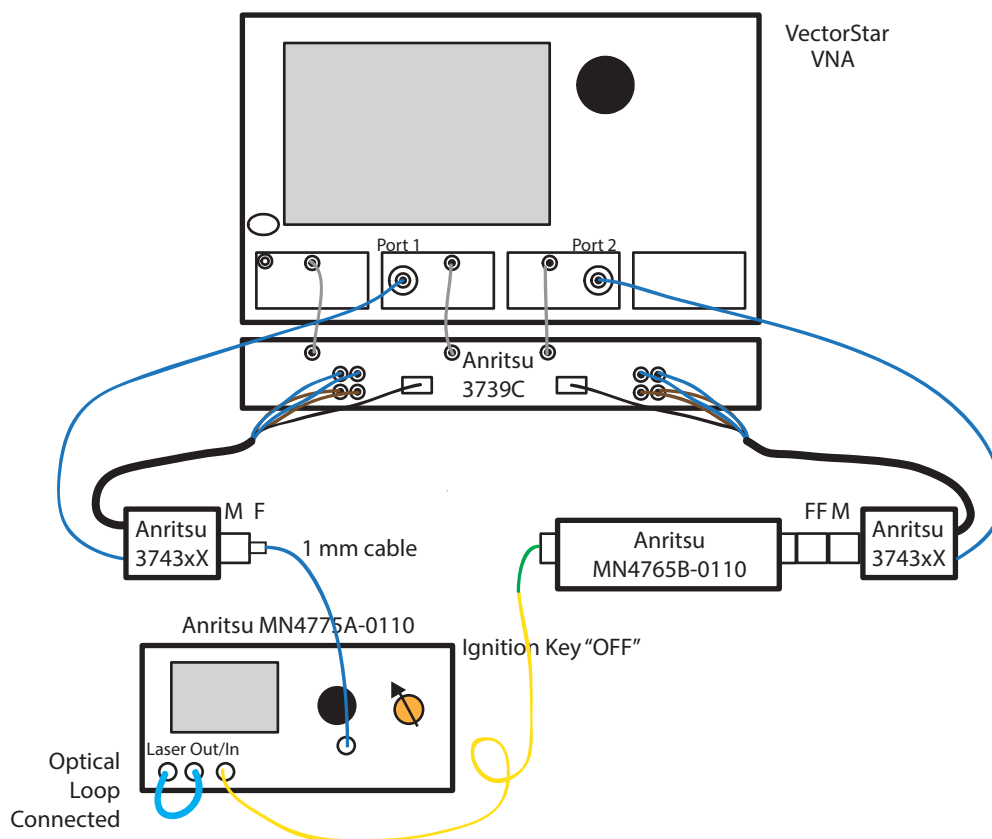

Figure 3-11. Turning Off Laser
11. Set E/O Converter Ignition key to **OFF**, see figure Figure 3-11.